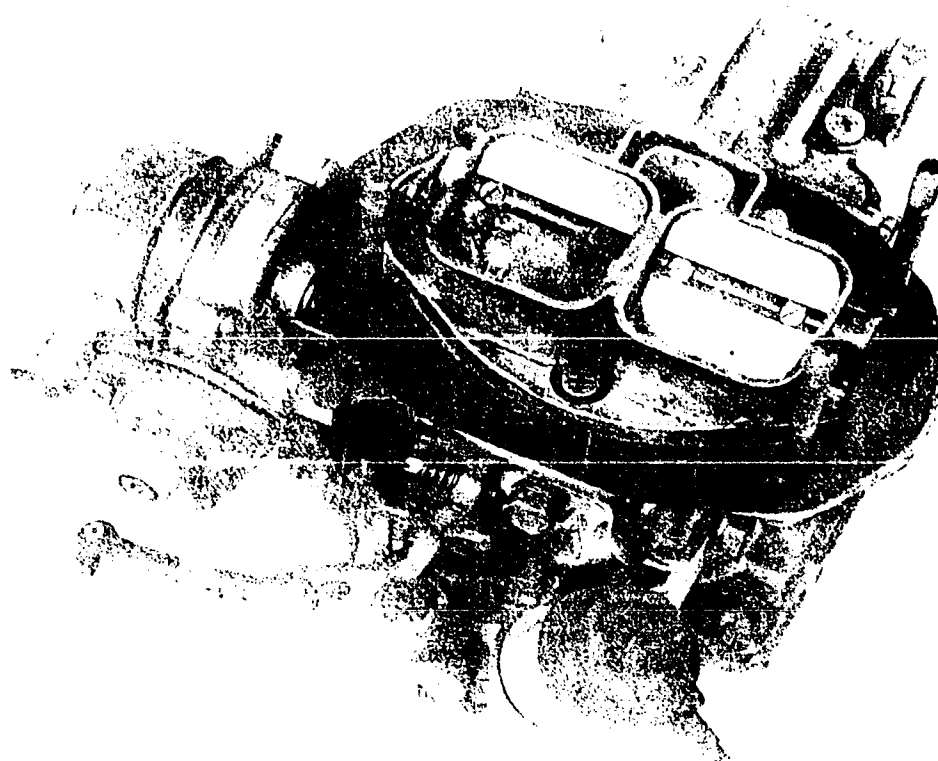

Figure 2-15. Deficiency photo showing main equipment.
**Adequate Coverage.** To insure adequate photographic coverage of the defective equipment, start closely with the technicians who normally use the equipment. Make several photographs. First, take a photograph from sufficient distance to indicate what the item is. Then move in toward the defect, showing enough of the surrounding parts of the subject so that those viewing the photograph can tell immediately where the defective part is located with respect to the total equipment. Finally, take at least one close-up of the actual defect, showing the problem area in detail. Change camera angles as necessary to portray the defective component and the specific defect clearly. It is better to take too many shots than not provide enough coverage. (See figs. 2-15 through 2-17 for typical MDR coverage.)